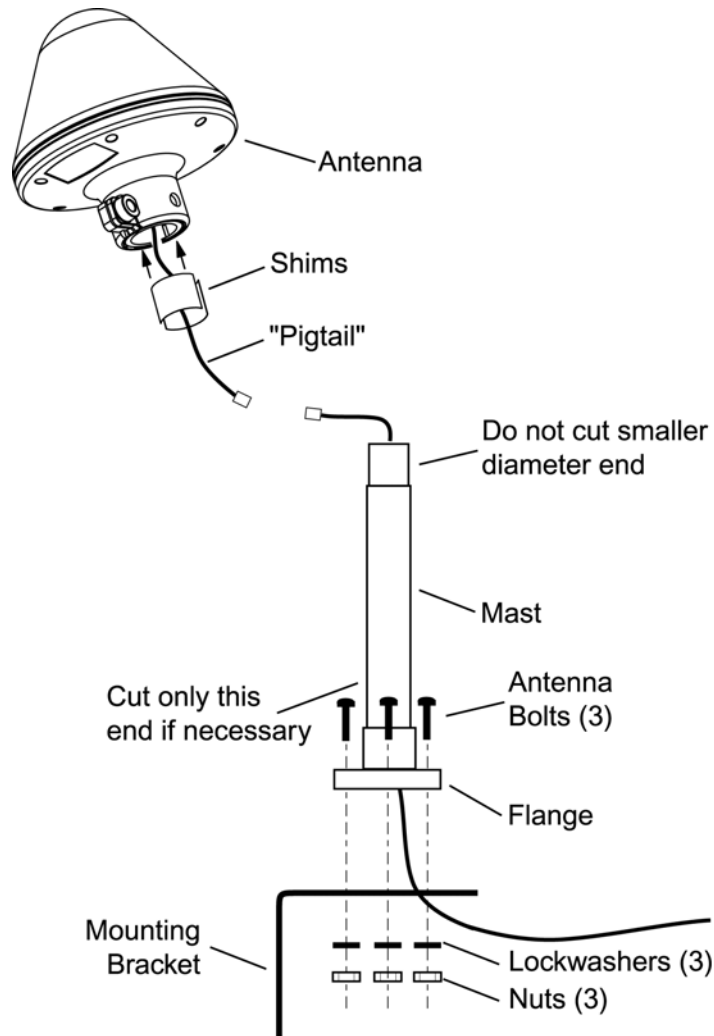

Figure 3-4. Attaching the Antenna to the Bracket
6. Mount the antenna and mast assembly to the "L" bracket using the supplied nuts, bolts, and washers, as shown in Figure 3-4.